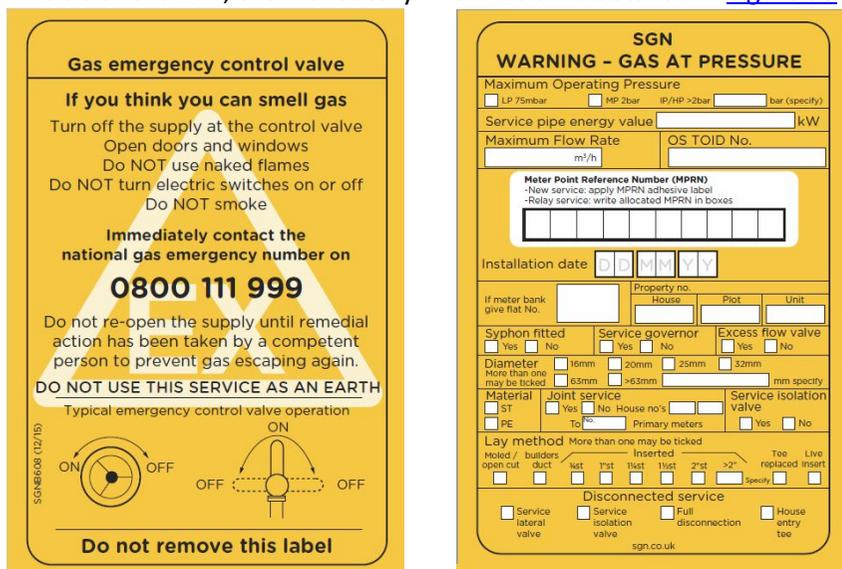

Figure 98 - Emergency Control Valve and Service Information Label
- Labels as shown in Figure 98 at the end of all new and replacement gas services.